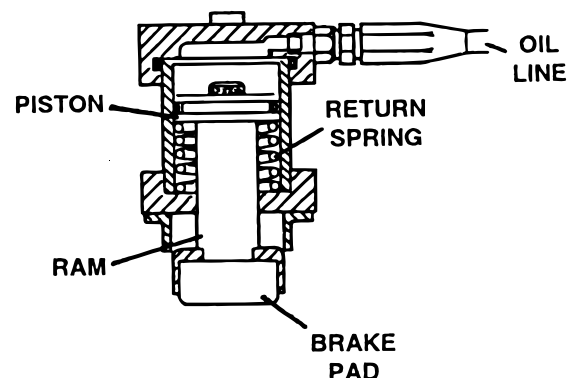

Figure 1-15. Single Action Brake Cylinder
6. Single Action Brake Cylinder (Later Table Models)- The brake cylinders are single action type similar to the elevation cylinder. The movable piston's ram is connected to a brake pad. See figure 1-15. Oil pumped into the top of the cylinder pushes the piston down and raises the table base off its casters. An internal return spring on the bottom of the piston, pushes the piston up to return the oil through the mini-valve to the reservoir.